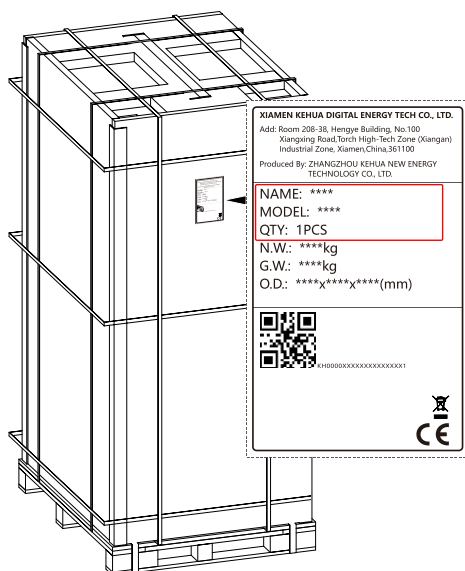

Figure3-2 Label position on package
- Check the model, etc. of energy storage system (the delivering information can be find on the label at the side of the package, position as shown in Figure3-2), ensure that the model is in accordance with the ordered model.